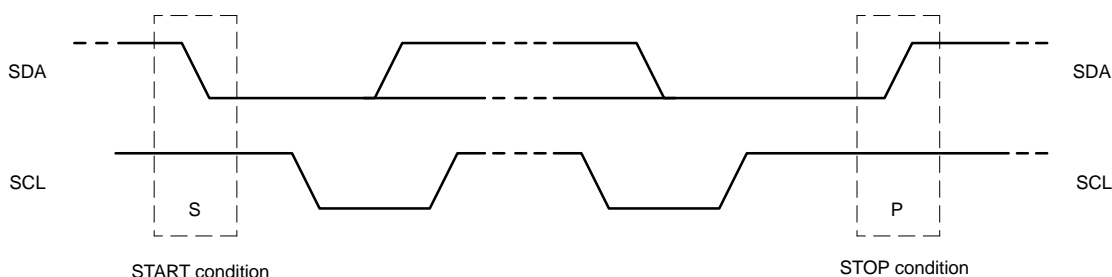

Figure 12. Definition of START and STOP Conditions
LOW-to-HIGH transition of the data line while the clock is HIGH is defined as the STOP condition (P) (see Figure 12).